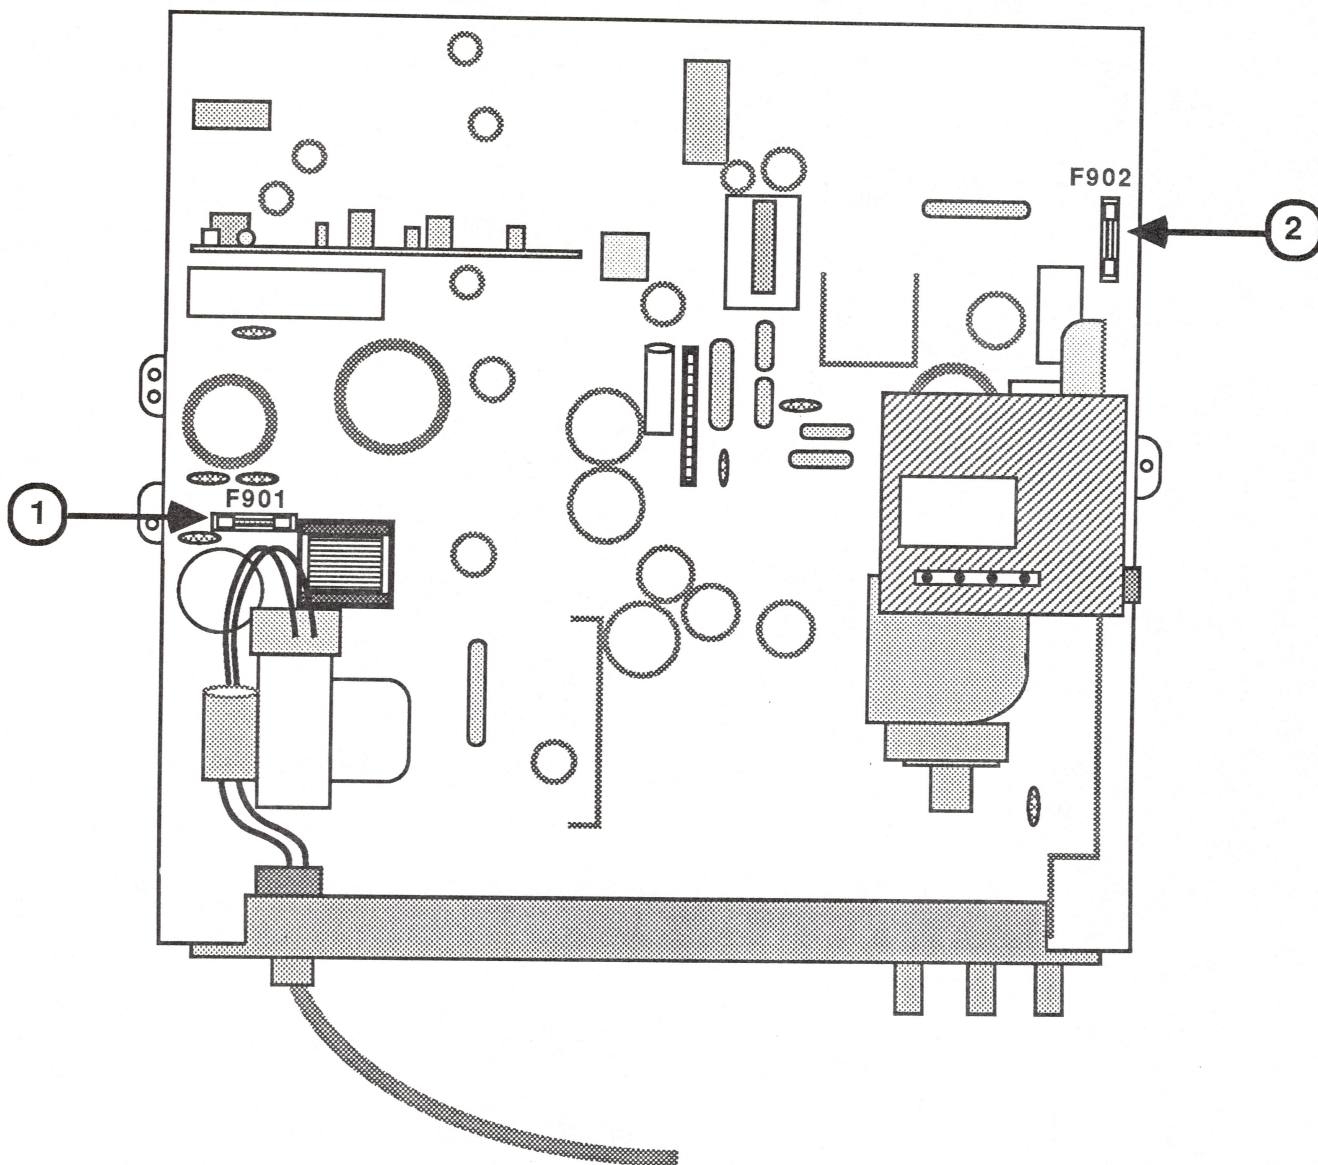

FIGURE 36
- a. Carefully remove fuse F901 (Figure 36, #1) by prying at one metal end, then the other, to remove the fuse from the fuse holder.
5. Now check fuse F902 (Figure 36, #2). If it is burned out, replace it with a 1 Amp Fast Blow fuse.